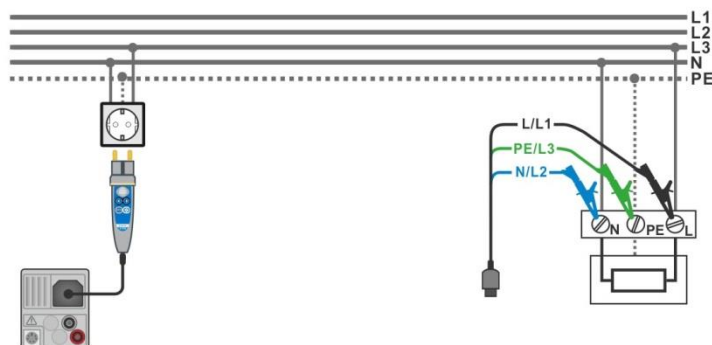

Figure 7.75: Connection of Plug commander and 3-wire test lead
- › Connect test leads or Plug commander to the object under test, see **Figure 7.75**.